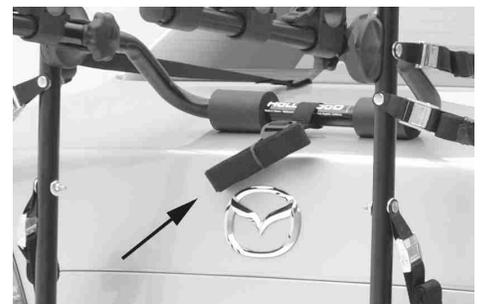

Fig. 5
8. Once all the bikes are mounted on the *Express* Rack, and all the rubber straps are pulled snug (but not over-stretched!) over their respective “nubs,” use the attached nylon strap (fig 5). Wrap the loose end of the strap around all the bikes (may be necessary to go through the wheels), then insert into buckle, then tighten strap in buckle.